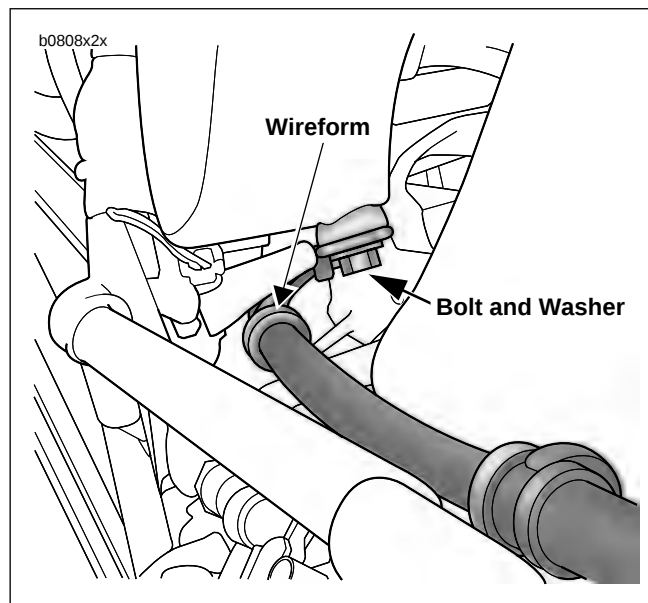

Figure 2-44. Rear Brake Line Wireform
5. See Figure 2-44. Remove bolt, washer, wireform and brake line from under oil tank.
6. Remove wires from terminals (2,3) at top of brake lamp switch (4). Unthread brake lamp switch from tee nut.
4. Place brake line inside wire guide (5) closest to master cylinder.
5. See Figure 2-44. Attach the wireform under the oil tank with bolt and washer.